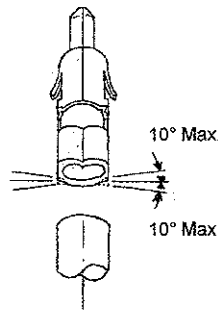

Figure 5
**B. Twist and Roll:** twist or roll of the crimped contact shall not exceed the limits specified in figure 5.